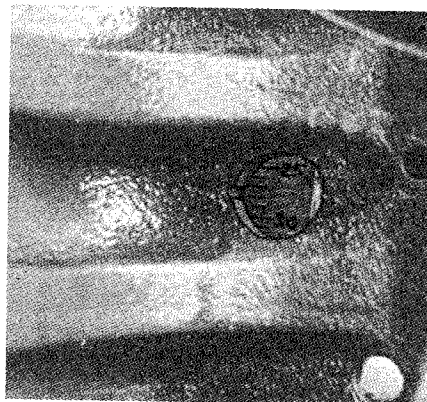

Fig. 55—Ignition timing marks on flywheel are visible through timing hole as shown.
53. TIMING. Timing marks are located on flywheel with a timing window on left side of engine block as shown in Fig. 55. Initial (static) timing should occur at 8 degrees BTDC. Maximum advance should be 27 degrees (crankshaft) at 2200-2250 engine rpm; 28 degrees (crankshaft) at 2425-2500 engine rpm. These rpm ratings are the recommended high idle no-load governed speeds for MF230 models (2200-2250 rpm); MF235 and MF245 models (2425-2500 rpm). Firing order is 1-3-4-2. Distributor shaft rotation is counterclockwise viewed from above (rotor end).
To install distributor, be sure breaker point gap is 0.43-0.56 mm (0.017-0.022 inch) which should provide dwell of 66-72 degrees. Turn crankshaft slowly until number one piston begins coming up on compression stroke, then stop when 8 degree BTDC mark is visible in timing hole (Fig. 55). Install distributor with rotor pointing toward number one spark plug. The distributor body should be rotated until wire to coil is straight to rear. Install distributor clamp finger tight. Turn distributor clockwise until